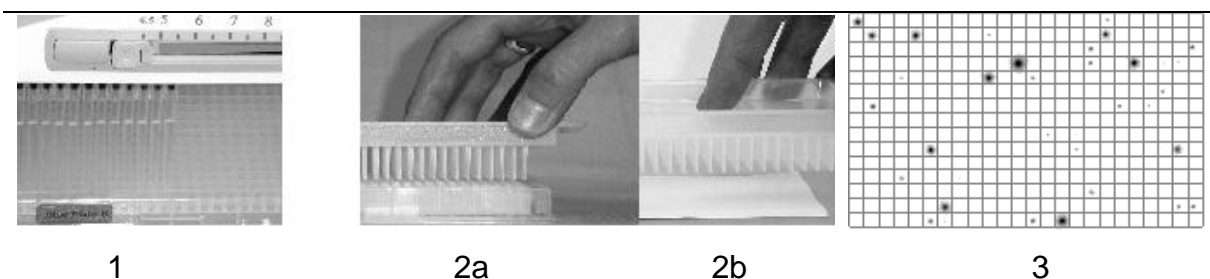

Figure 3
- Transfer an adequate volume of assay buffer (we recommend 20 μ l/well resulting in a 12.5 μ M peptide solution) into each well to adjust to your desired final substrate concentration. Normally, the peptides are dissolved within 5 min at room temperature. Gently mixing of the MTPs will help to dissolve the peptides. (see Figure 3, 1)
- Use the provided replicator to transfer a sample from each well to the streptavidin-coated flat surface (we recommend Sam²[®] Biotin Capture Membranes from Promega), please refer to Figure 3, 2a and 2b.
- Expose Sam²[®] Biotin Capture Membranes to a Phosphor-Imager Screen or X-Ray film. For easier handling we recommend to wrap the membranes still slightly wet in plastic foil (e.g. Saran Wrap[®]) before exposure (see Figure 3, 3)